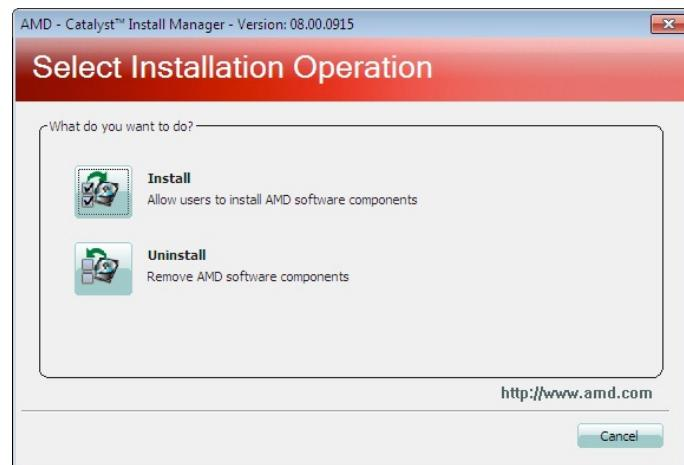

Figure 6-2: Select Installation Operation Screen
**Step 5:** Click **Install** (**Figure 6-2**).